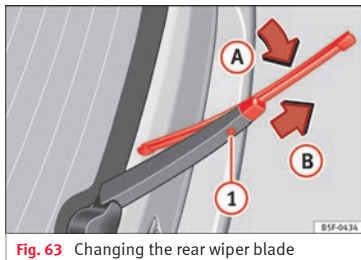

Fig. 63 Changing the rear wiper blade
- Lift the windscreen wiper arm and fold it at an angle of approximately 60° » Fig. 63.
- Fold the wiper blade towards the windscreen wiper arm » Fig. 63 (arrow A) while pulling in the direction of arrow B). This may require some strength.